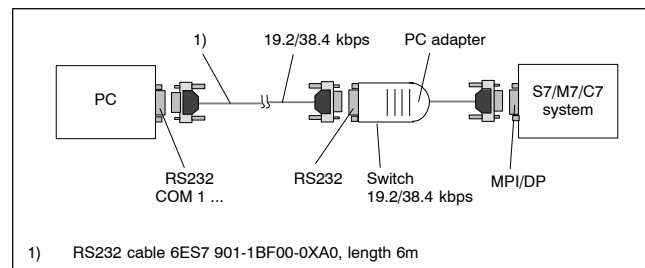

Figure 1-1 PC Adapter in the System
- See Figures 1-1/1-2 "PC/TS Adapter in the System" for direct connection details. An RS232 cable is required to connect a PC/programming device to the adapter's RS232 interface (COM2-PC-compatible). This cable must be ordered separately (see Point 3 "Accessories").